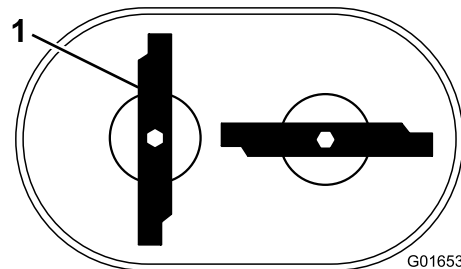

Figure 32
**Note:** The blades should be perpendicular, forming an inverted "T" as shown in Figure 32.